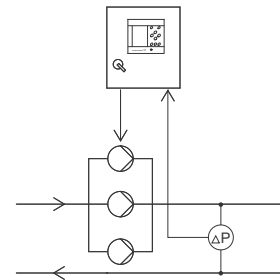

Fig. 10 Differential pressure
- Differential pressure. See fig. 10.